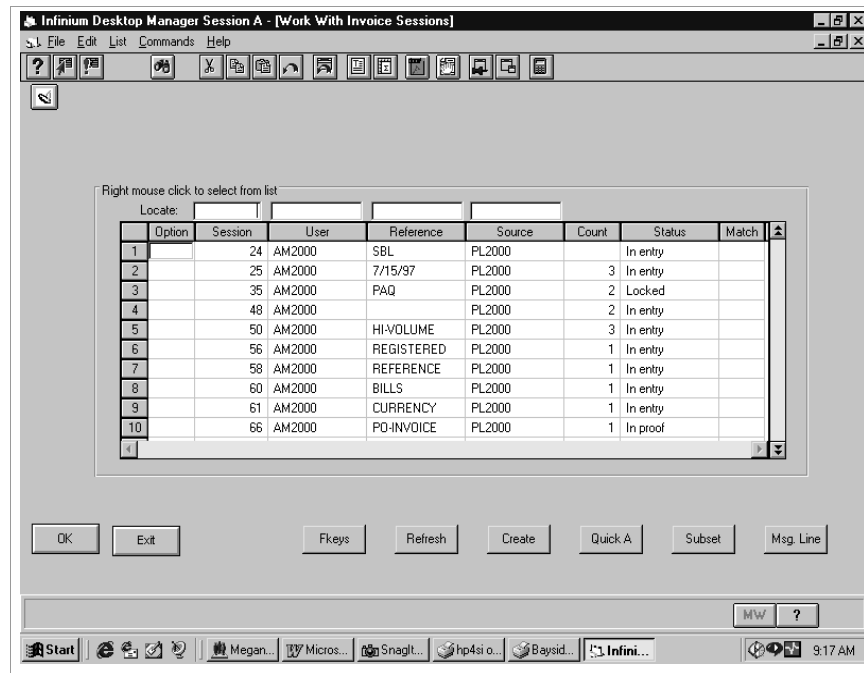

Figure 7-3: Work With Invoice Sessions screen
- 2 Select *Work with invoice entry* [WWI]. The system displays the screen shown in Figure 7-3.